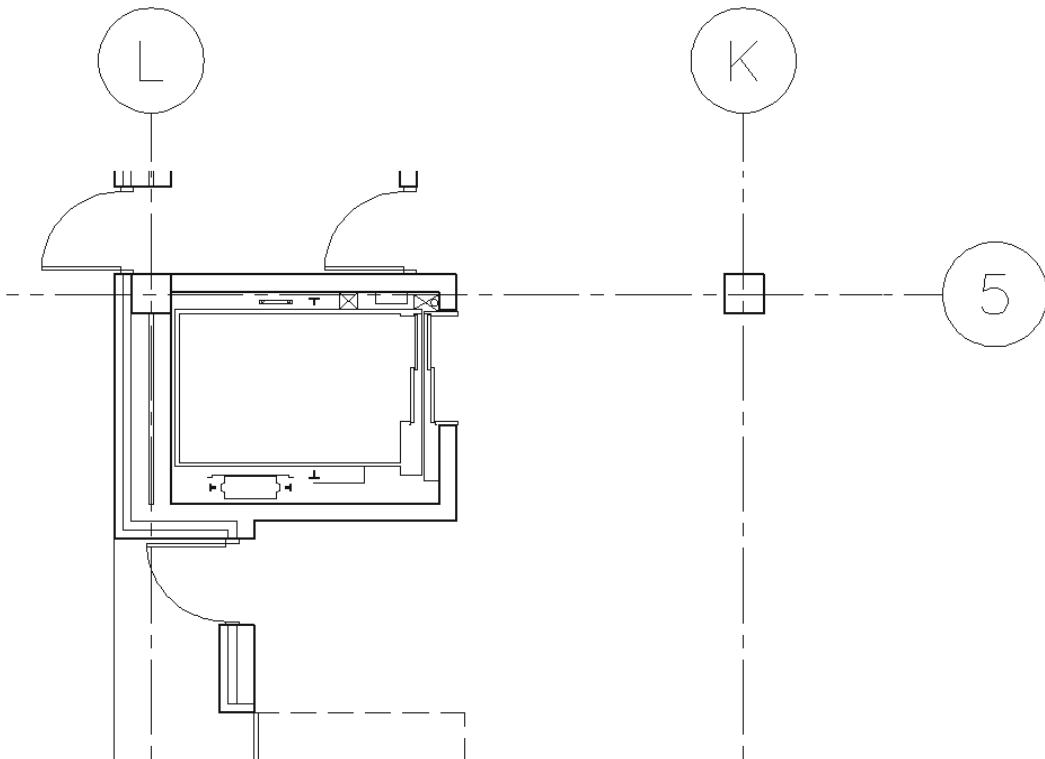

FIGURE 4-3.15 Service elevator added to plan
31. Place the **service elevator.dwg** block per **Figure 4-3.15**, *plus*:
Notice in Figure 4-3.15 that the angled break lines help to delineate both the *up run* and the *down run*, which would otherwise overlap and be confusing.